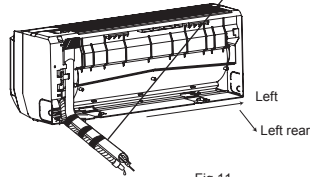

Fig.11
(2) Take out the piping from body case, wrap the piping electric wire, water pipe with tape and pull them through the piping hole (As show in Fig.11)